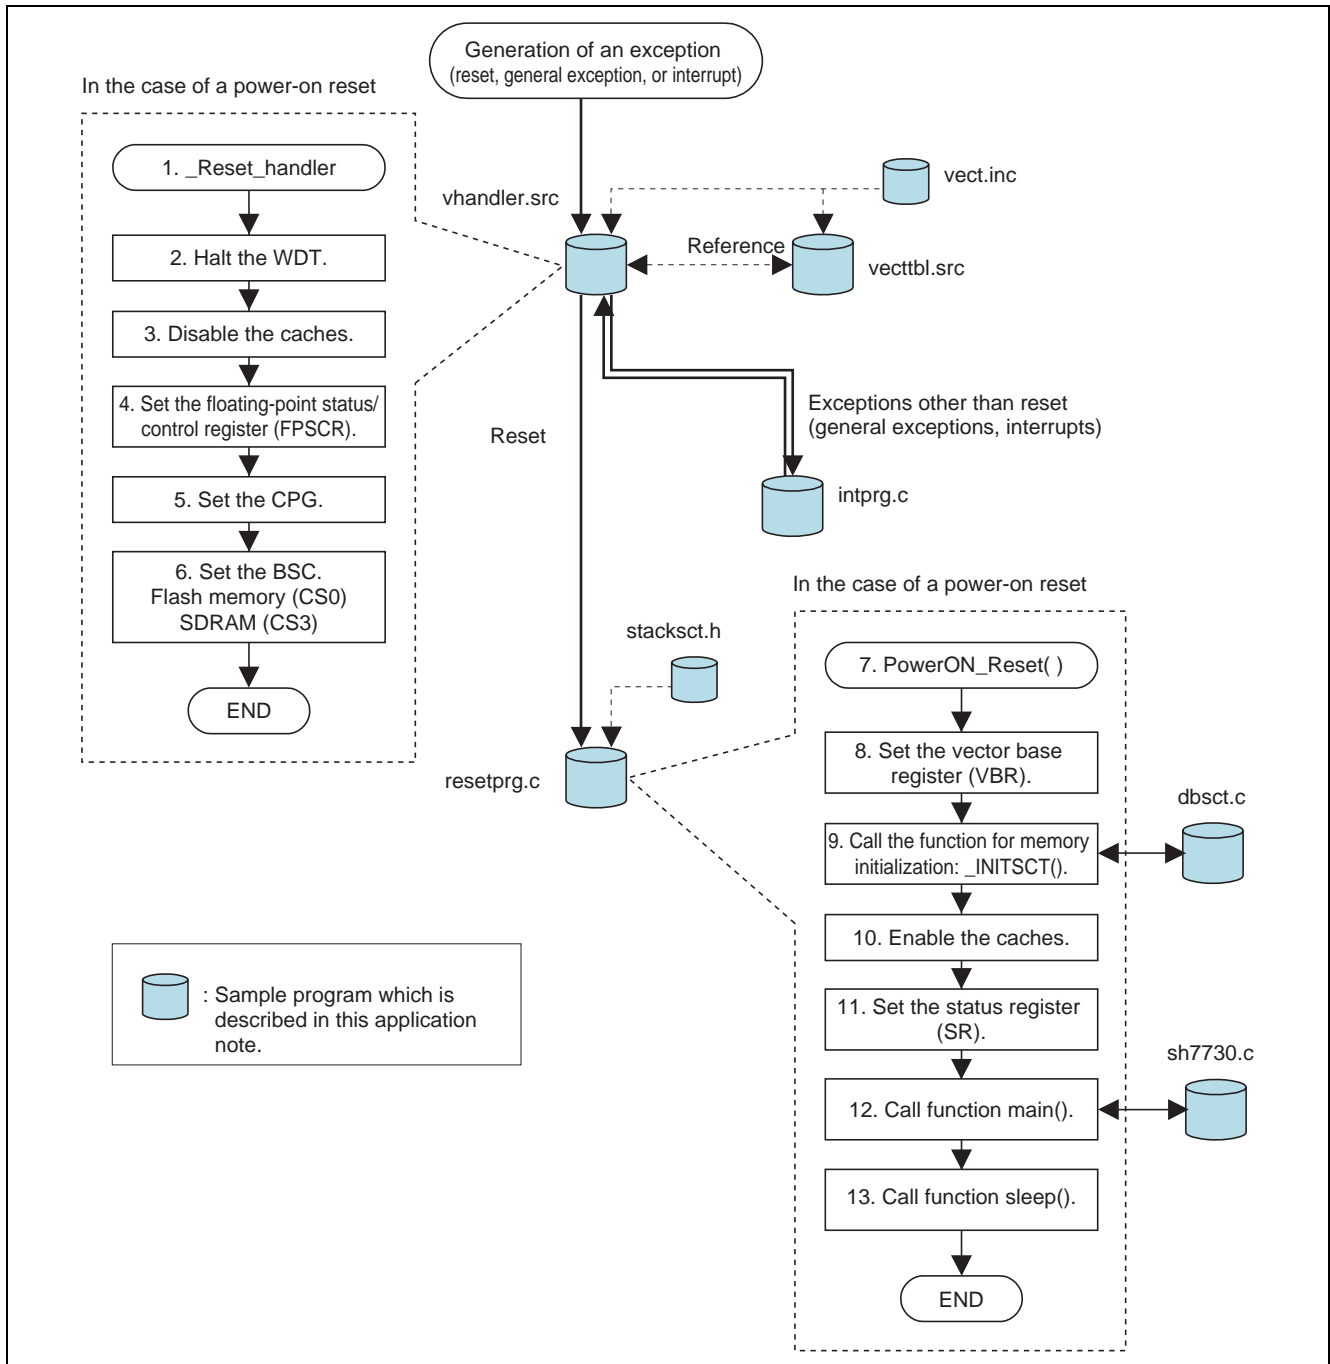

Figure 2 Flow of Processing from Power-On Reset
Function `PowerON_Reset ()` (see 7 in figure 2) is used to enable the caches.
Changes are made so that the values which have been set in the `PowerON_Reset ()` function are set in the reset handler (see 4 in figure 2).
Reset handler (see 5 in figure 2) is used to set the CPG so that the applicable conditions given in section 1.3, Applicable Conditions, are in effect.
Processing for BSC initialization so that external memory (flash memory, SDRAM) can be used is added to the reset handler (see 6 in figure 2).
The reset handler (from label `_Reset_handler`) is activated by a power-on reset. The reset handler used in this application program differs from that generated by the High-performance Embedded Workshop in the following ways: the instruction cache and operand cache are disabled (see 3 in figure 2), the FPSCR is set (see 4 in figure 2), the CPG is set (see 5 in figure 2), and the BSC is initialized (see 6 in figure 2). The TLB miss handler has also been changed for the reasons described below.
This file contains the code for the PowerON_Reset() function, i.e. the reset processing program (see 7 in figure 2). The PowerON_Reset() function described in this application note differs from the file that the High-performance Embedded Workshop automatically generates in that the HardwareSetup() function is not called. Since sections B, R, and S are allocated to the external SDRAM, which requires initialization, BSC initialization is handled by code in the reset handler (vhandler.src).
The PowerOn_Reset() function contains code that sets the vector base register (VBR) (see 8 in figure 2), calls the _INITSCT() function (see 9 in figure 2), calls the function that enables the cache (see 10 in figure 2), sets the status register (SR) (see 11 in figure 2), and calls the main function (see 12 in figure 2).
The dbstc.c file is automatically generated by the High-performance Embedded Workshop and handles part of the initialization of sections: specifically, definition of the addresses where the initialized data sections (sections D and R) and non-initialized data section (section B) start and end. Clearing of section B to 0 and copying of data from section D to section R are handled by the call of the _INITSCT() function from within the PowerOn_Reset() function, which is in resetprg.c (see 9 in figure 2).
This file contains the main function, which is called after completion of initialization (see 12 in figure 2). Code for user programs should be written in the main routine. In source programs that the High-performance Embedded Workshop automatically generates, hwsetup.c is used to make settings for the operation of peripheral modules. In this sample program, on the other hand, calls to functions that make such settings are supposed to be in the main function.
Figure 2 shows the flow of processing from a power-on reset.